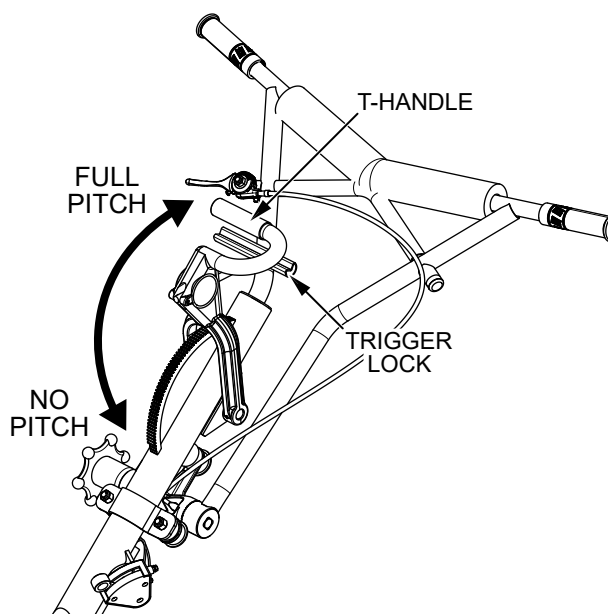

Figure 13. Blade Pitch Cable Adjustment (Quick Pitch™ Handle)
2. For trowels equipped with a **Quick Pitch™** handle, squeeze the trigger lock and push the T-handle towards the engine to release tension on the blade pitch cable. See Figure 13.